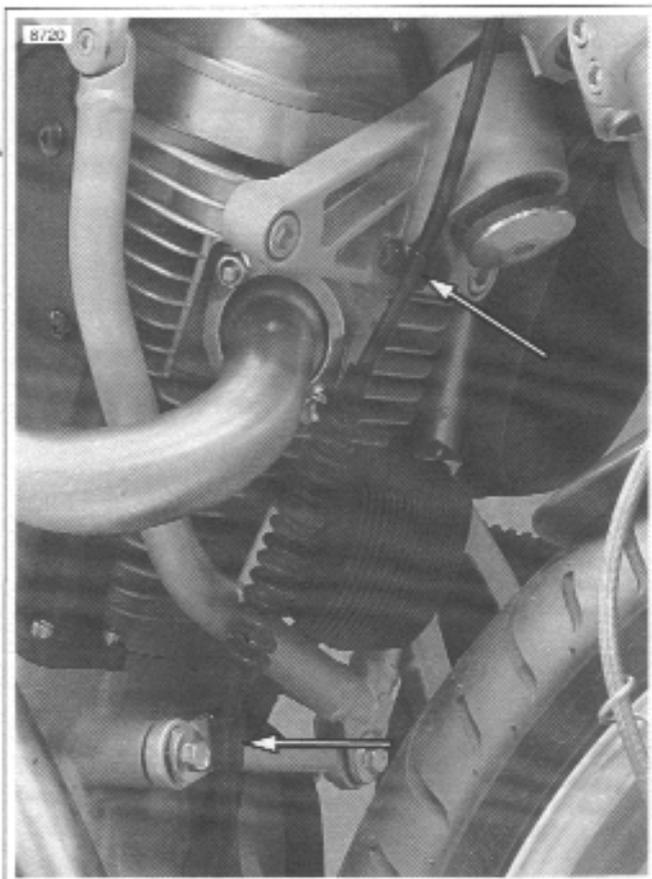

Figure 3-11. Clutch Cable Retaining Clamps
10. See Figure 3-11. Pull clutch cable back up into the proper position.